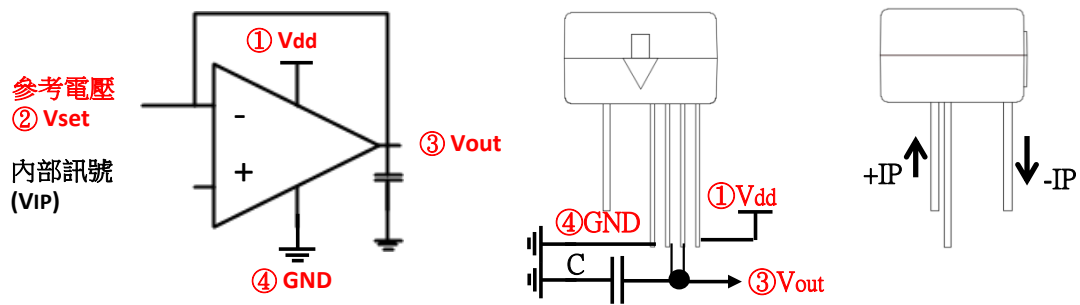

Fig. 3
2. Measure the Zero Current Output Voltage V_{0A} (Internal Signal, V_{IP}): V_{set} pin and V_{out} pin are short-circuited, and output pin needs to be connected capacitive load to GND, recommend value is 0.01uF. As shown in Fig.3. (Internal circuit configuration of this device is used a comparator, the phase compensation capacitance for oscillation prevention is not included in the comparator. So users need to connect capacitive load in parallel at output terminal if using in a negative feedback configuration.)